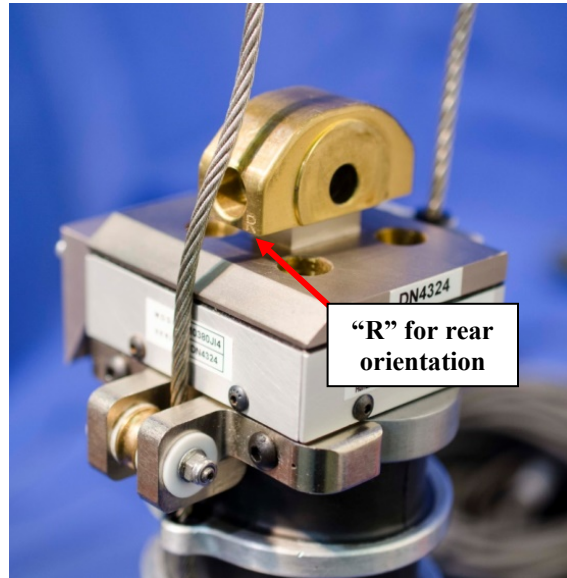

Figure 4-30. Install occipital condyle cam
- 4.2.2.19 Place the Neck Occipital Condyle Cam (472-2019) over the upper neck load cell (Figure 4-30). Note that the cam must be properly oriented; the cam ends are engraved to aid in correct positioning. Loosely attach the cam to the upper neck load cell using the Occipital Condyle Screw (472-2016) on the rear and an M4 x 0.7 x 6 SHCS on the front.